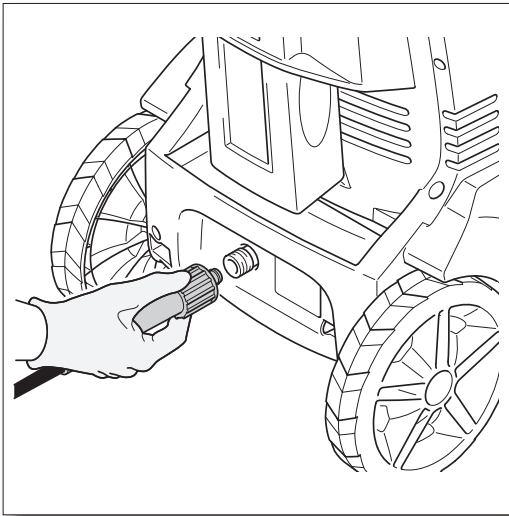

Fig. 4
- Screw the high pressure hose (clockwise) on the back of the unit at the bottom (**Fig. 4**). Pull back the collar and insert o-ring post into the water outlet far enough so the collar can thread onto the outlet threads until hand tight. Do not use pliers or vice grips to tighten. If it takes fewer than six or so turns you have not properly tightened the high pressure hose fitting. It is easier to position the power washer in front of you so to ensure that the threads are started correctly. Failure to properly tighten the high pressure hose will result in the hose slipping or popping off immediately upon turning the unit on. Do not worry about damage if this occurs - just reinstall and take extra care at screwing on the high pressure hose fitting.